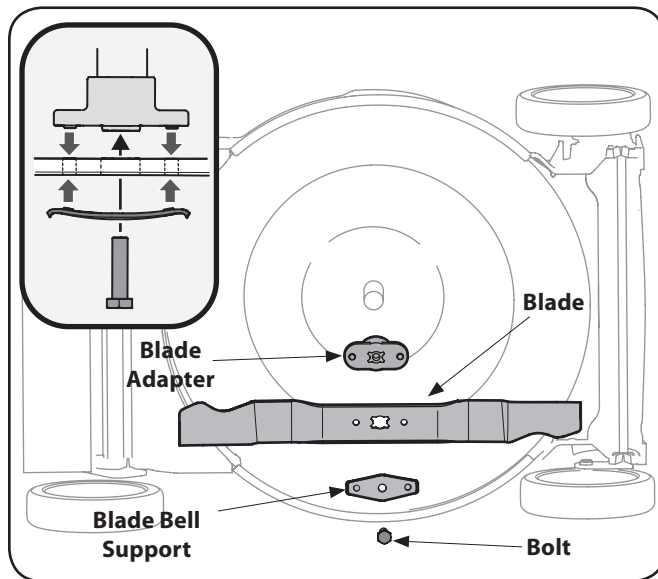

Figure 7-1
2. Remove the bolt and the blade bell support which hold the blade and the blade adapter to the engine crankshaft. See Figure 7-1.
5. Lubricate the engine crankshaft and the inner surface of the blade adapter with light oil. Slide the blade adapter onto the engine crankshaft. Place the blade on the adapter such that the side of the blade marked "Bottom" (or with part number) faces the ground when the mower is in the operating position. Make sure that the blade is aligned and seated on the blade adapter flanges. See Figure 7-1 inset.